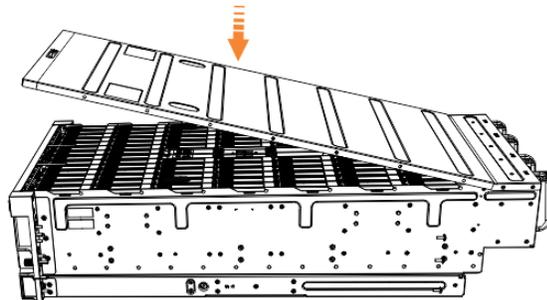

Figure 134. Aligning the top cover
6. Carefully lower the cover and ensure that it is aligned correctly with the back of the enclosure, as shown in Figure 134 on page 197.